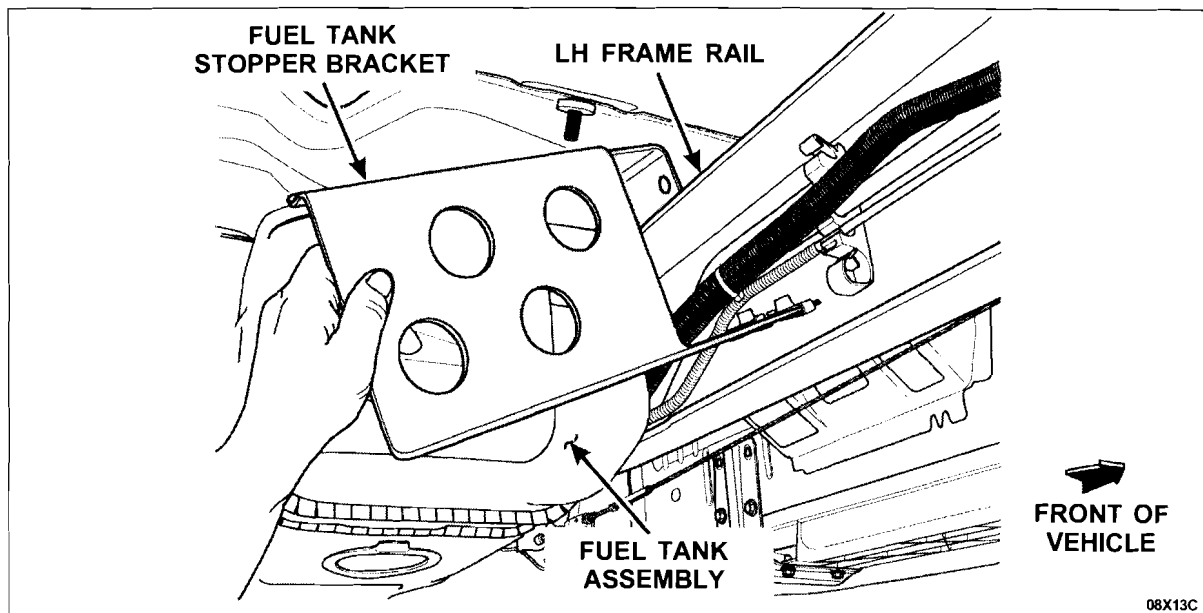

FIGURE 3
4. Position the fuel tank stopper bracket up onto the frame rail in front of the fuel tank assembly. See Figure 3.